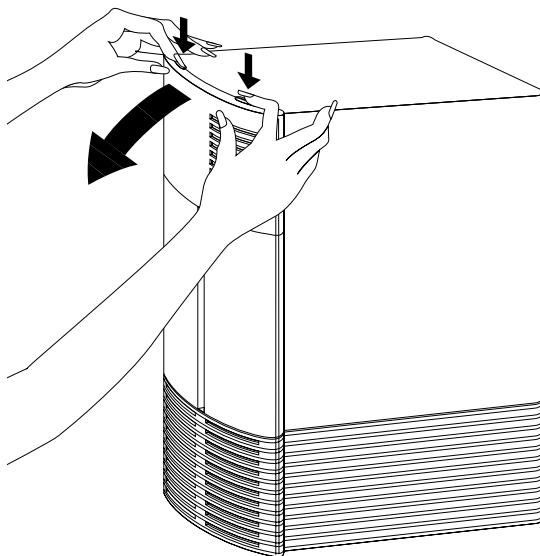

Figure 6-30 Removing the Plastic Cover of the Indigo Chassis
- Press down on the tabs and pull the panel away from the chassis, as shown in Figure 6-30.